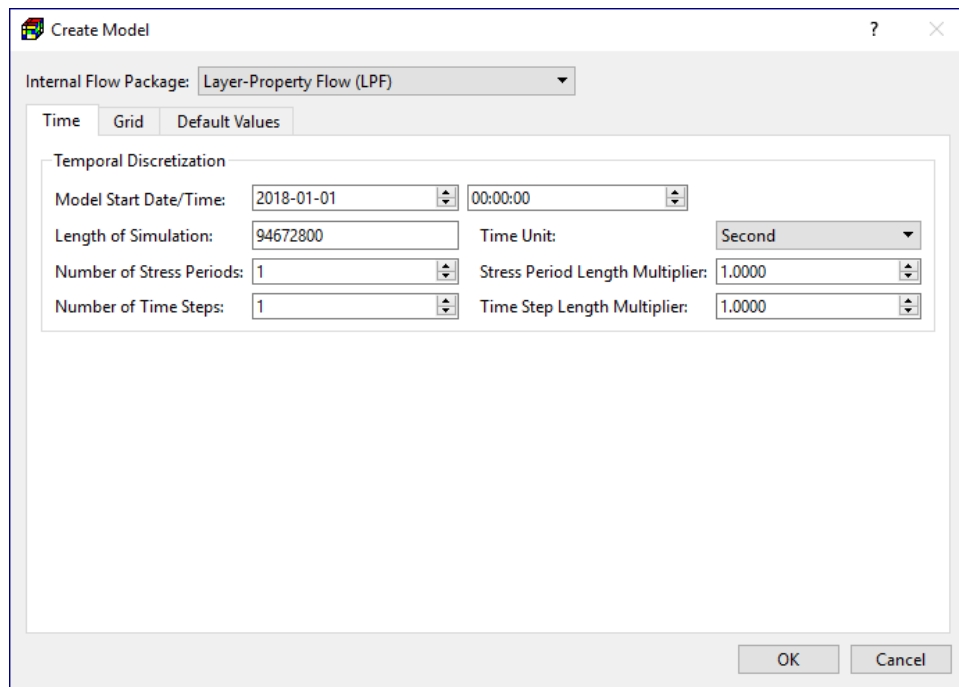
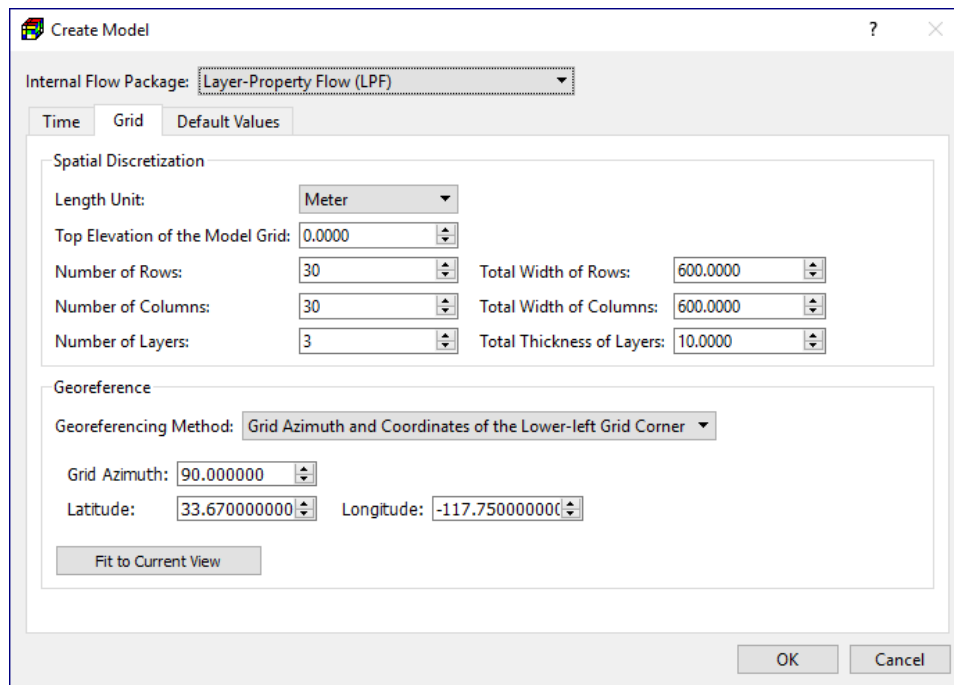

Figure 3. The Time tab of the Create Model dialog box
Figure 4. The Grid tab of the Create Model dialog box
4. As soon as the file is saved, the Create Model dialog box appears. We use the Time tab (Figure 3) to define the temporal discretization and use the and Grid tab (Figure 4) to define the spatial discretization of the model. All values may later be modified when necessary. For this tutorial, the following values are used. The default values are used if they are not mentioned below.
- Time Tab (Figure 3):
- Grid Tab (Figure 4):